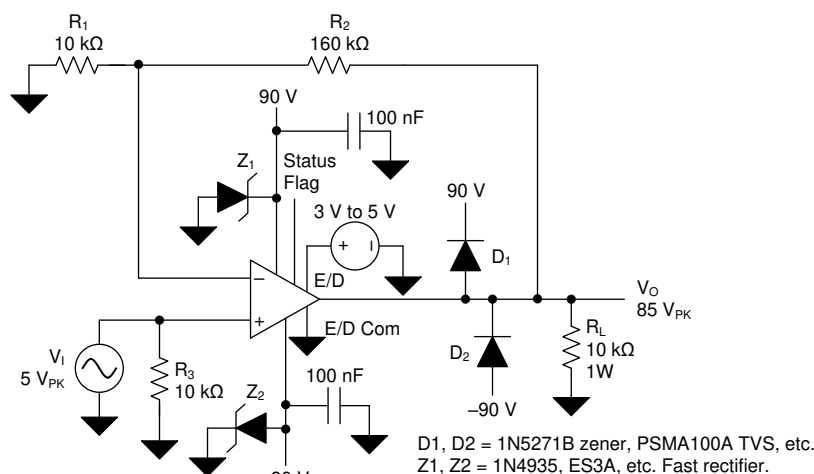

FIG 61. OPA462, High-Voltage Noninverting Amplifier, $A_V = 17$ V/V
The OPA462 high-voltage op amp can be used in commonly applied op amp circuits, but with the added capability of allowing for the use of much higher supply voltages. A very common application of an op amp is that of a noninverting amplifier with a gain of 1 V/V or higher. FIG 61 shows the OPA462 in a noninverting configuration.
Figure 61 shows a noninverting circuit with a moderately high closed-loop gain (A_V) of 17 V/V (24.6 dB). In this example, a 5- V_{PK} ac signal is amplified to 85 V_{PK} across a 10-k Ω load resistor connected to the output. The peak current for this application is 8.5 mA, and is well within the OPA462 output current capability. Higher output current, typically up to 30 mA, may be attained at the expense of the output swing to the supply rails. A ± 90 - V_{DC} power supply is required for this configuration.
A potentially destructive mechanism is the back EMF transient that can be generated when driving an inductive load. D_1 , D_2 , Z_1 and Z_2 in Figure 61 have been added to the basic OPA462 amplifier circuit to provide protection in the event of back EMF. If the voltage at the OPA462 output attempts to momentarily rise above $V+$, D_1 becomes forward-biased and clamps the voltage between the output and $V+$ pins. This clamp must be sufficient to protect the OPA462 output transistor. If the event causes the $V+$ voltage to increase the power supply bypass capacitor, Z_1 , or both, a Zener diode or a transient voltage suppressor (TVS) can provide a path for the transient current to ground. D_2 and Z_2 provide the same protection in the negative supply circuit.
The OPA462 noninverting amplifier circuit with a closed-loop gain of 17 V/V has a small-signal, –3-dB bandwidth of nearly 800 kHz. However, the large-signal bandwidth is likely of greater importance in a high-output-voltage application. For that mode of operation, the slew rate of the op amp and the peak output swing voltage must be considered in order to determine the maximum large-signal bandwidth. The slew rate (SR) of the OPA462 is typically 6.5 V/ μ s, or 6.5×10^6 V/s. Using the 85- V_{PK} output voltage available from the circuit in Figure 61, the maximum large-signal bandwidth is calculated from the slew rate formula. Equation 1, Equation 2 and Equation 3 show the calculation process.